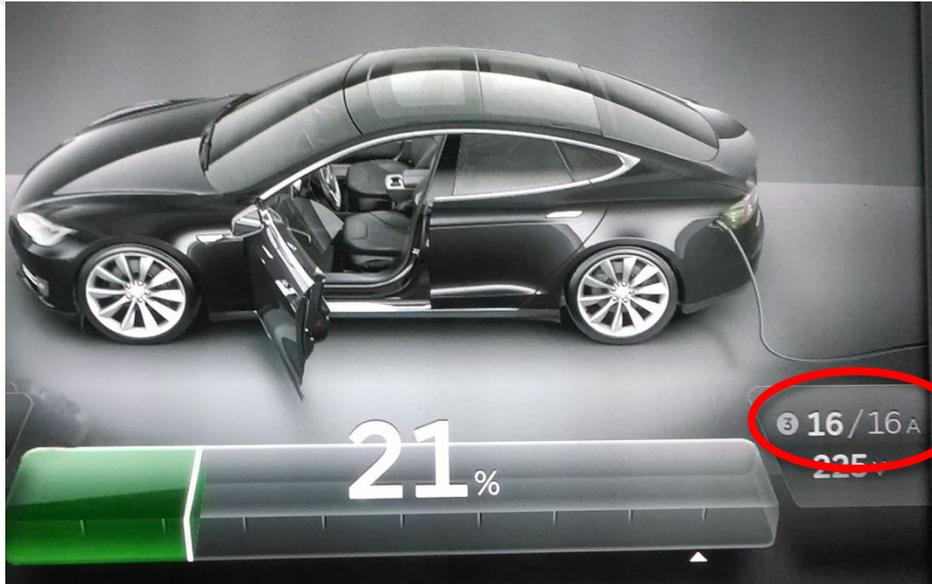

Figure 5
12. Verify that the charging icon to the right of the range bar displays a circle icon with the number “3”, and displays “16 / 16 A” (Figure 5).